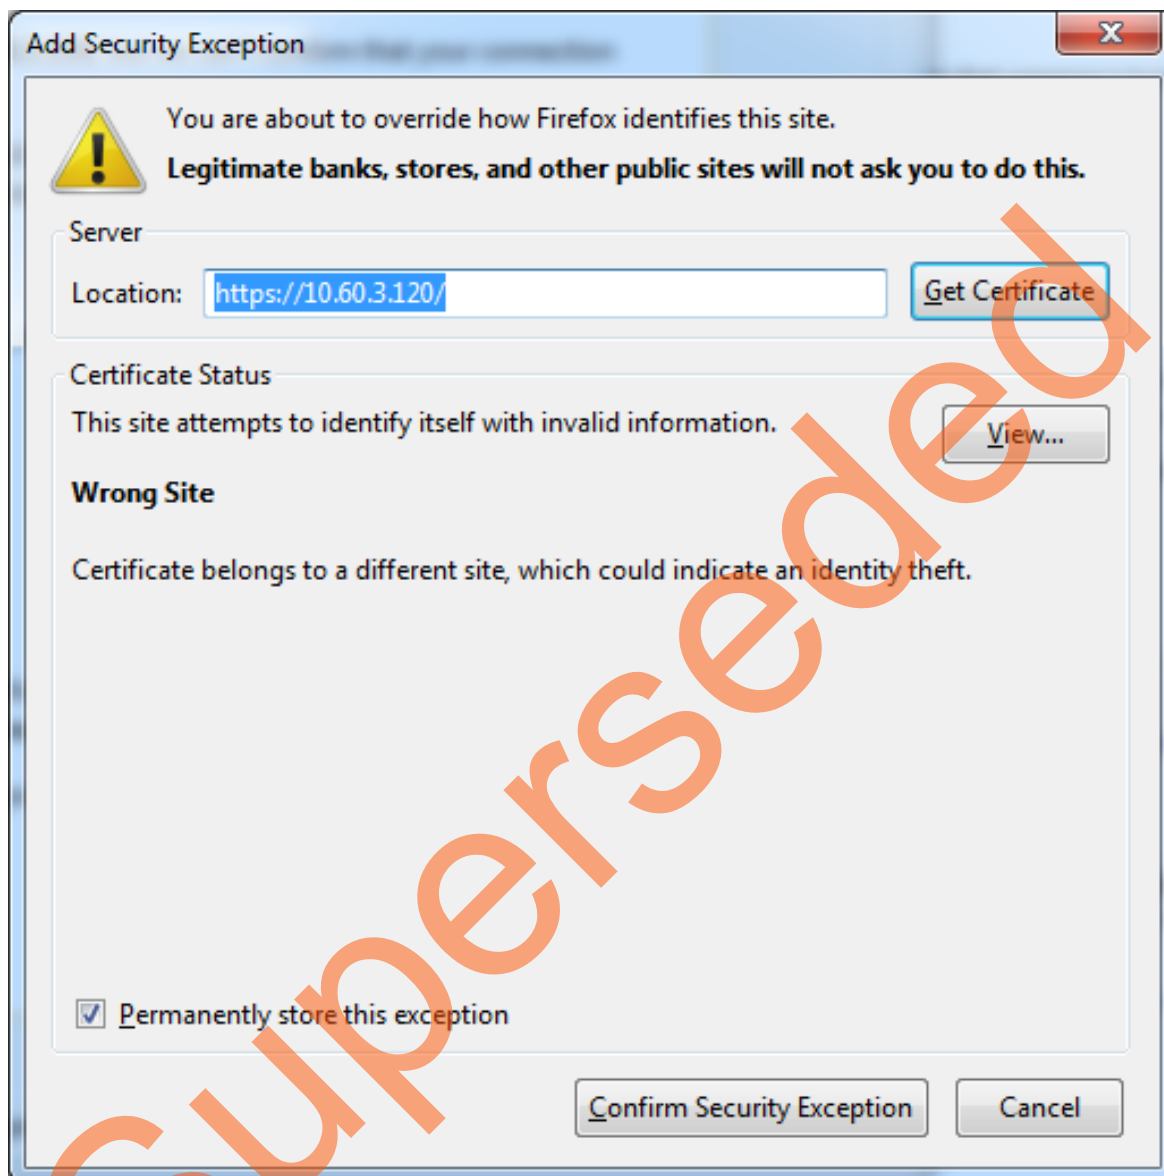

Figure 21 • Add Security Exception Window
3. Click **Confirm Security Exception** in **Add Security Exception** window as shown in Figure 21, to start secure communication with the Webserver.